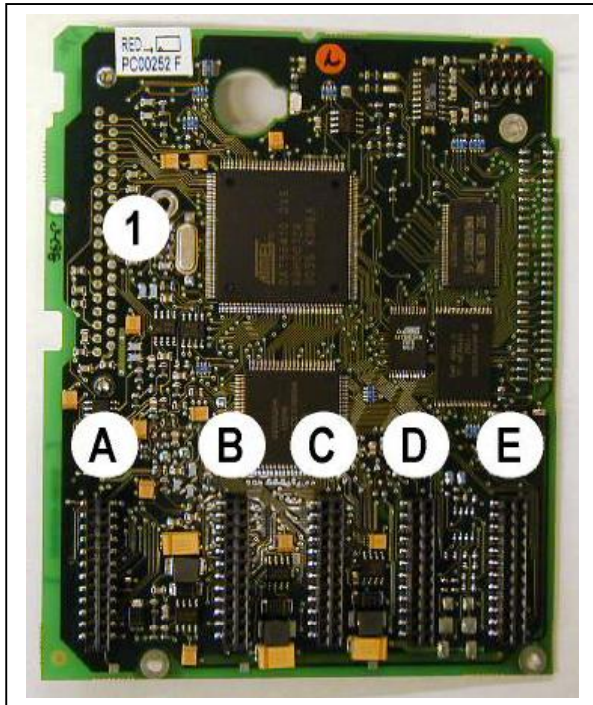

Figure 8-1. NX control board
The control unit of the frequency converter consists roughly of the control board and additional boards (see Figure 8-1 and Figure 8-2) connected to the five *slot connectors* (A to E) of the control board. The control board is connected to the power unit through a D-connector (1) or fibre optic cables.